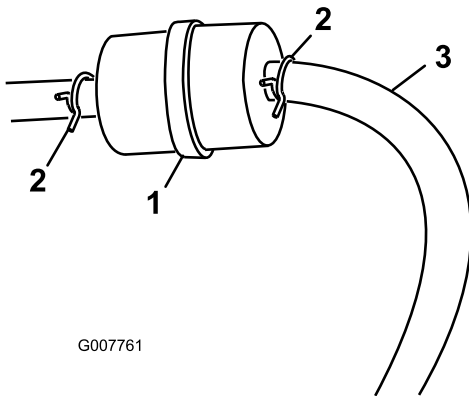

Figure 29
3. Squeeze the ends of the hose clamps together and slide them away from the filter (Figure 29).
5. Install a new filter and move the hose clamps close to the filter (Figure 29).
3. Loosen the hose clamp at the fuel filter and slide it up the fuel line away from the fuel filter (Figure 29).
4. Disconnect the fuel line from the fuel filter (Figure 29).
**Note:** Allow the fuel to drain into a fuel container or drain pan (Figure 29).
5. Install the fuel line onto the fuel filter. Slide the hose clamp close to the fuel filter to secure the fuel line (Figure 29).